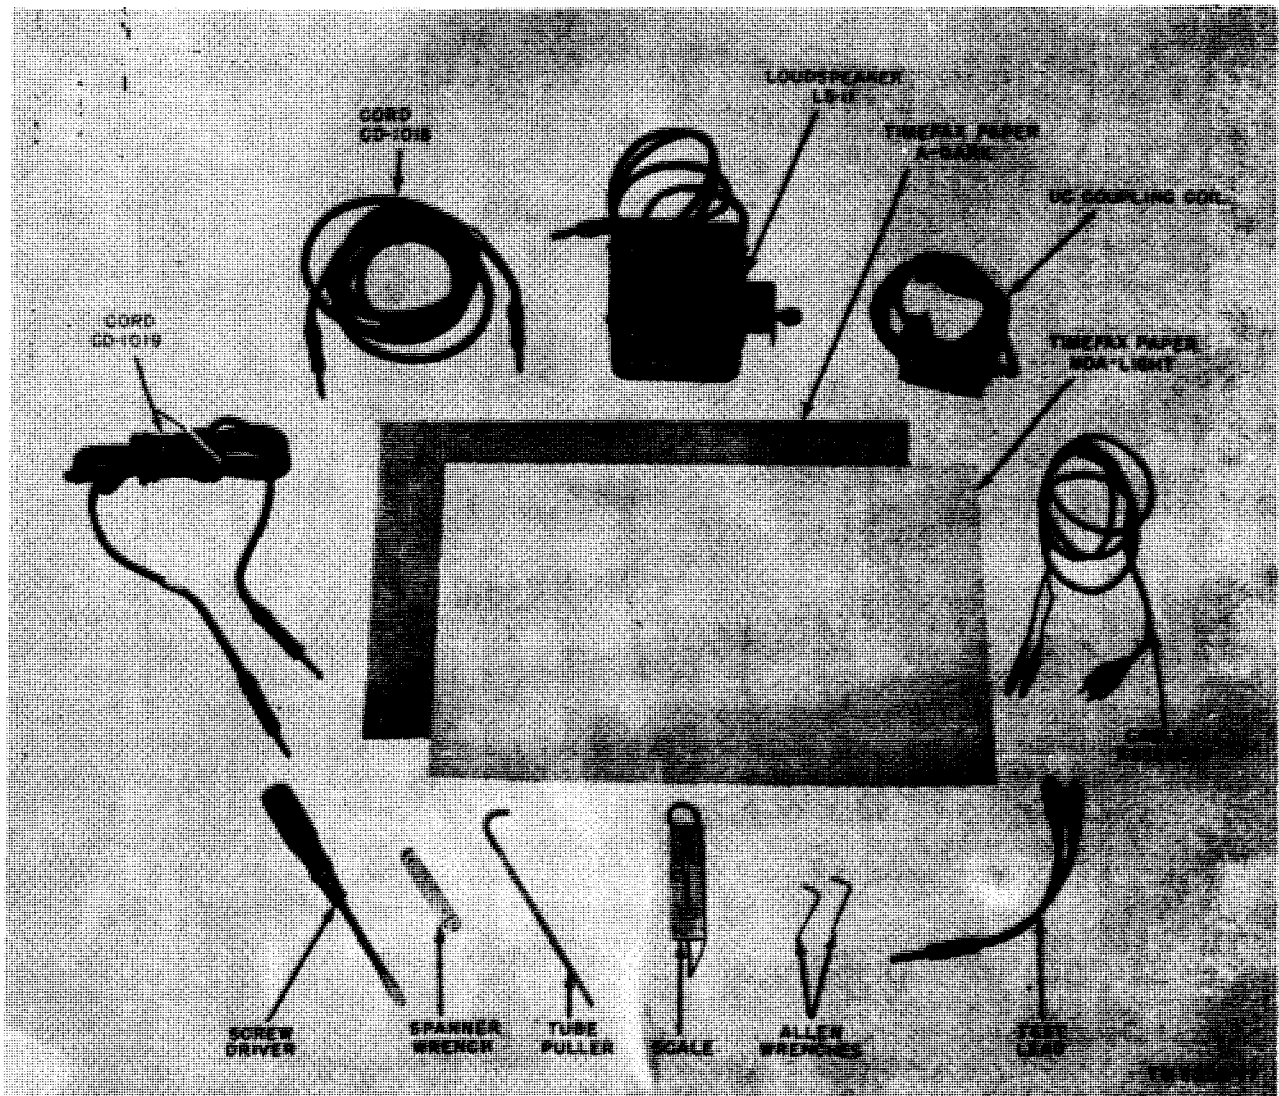
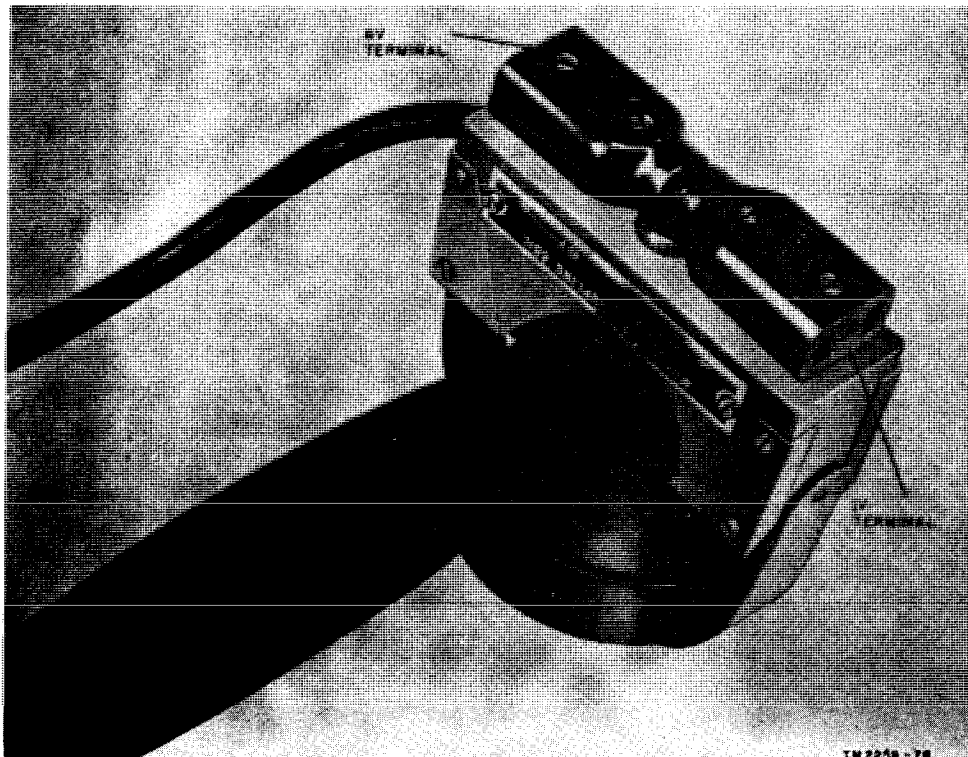

Figure 5. Facsimile set AN/TXC-1*, accessories.
Figure 6. UC coupling coil.
e. Cords and Leads. The following cords and leads (fig. 5) are furnished with Facsimile Set AN/TXC-1(*):
- (1) Cord CD-1018, a 10-foot, two-conductor, shielded, rubber-jacketed cord, terminated at each end with Plug PL-55. It is used in making input connections to the transceiver.
- (2) Cord CD-1019 an 8-foot, three-conductor, shielded, rubber-jacketed cord, terminated at each end with Plug PL-68. It is used in making output connections from the transceiver.
- (3) A 5½-foot test lead terminated on one end with a two-prong plug that fits the 1V and 6V jacks on the coupling coil (fig. 6), and on the other end with two alligator clips. It is used in making input and output connections to the transceiver when a high-level signal is required for certain types of wire lines.
- (4) A 6-inch test lead a two-conductor cord terminated at one end with PL-55, and at the other end with two alligator clips. It is used in connecting a wire line into the RADIO RCVR jack during reception of high-level signals.
f. UC Coupling Unit. This coupling unit (fig. 6) is used to make input and output connections to the transceiver through a telephone receiver, and is supplied with a phosphor-bronze clamp for holding it in place on the telephone handset. The primary impedance is 600 ohms and matches the output of the transceiver. The full 10-ohm secondary provides an open-circuit output of 6 volts; the secondary also has a 2-ohm tap that provides an open-circuit voltage of 1 volt. The secondary terminates in two female type plugs for selection of the desired level. This unit is not used with Facsimile Transceiver TT-1F/TXC-1.
g. Loudspeaker LS-11 (fig. 5). This loudspeaker is used in the talk-back circuit of Facsimile
h. Recording Paper (fig. 5). Two special types of direct recording paper are furnished for use with Facsimile Transceiver TT-1(*)/TXC-1.
- (1) Teledeltos paper or Timefax NDA is used in direct recording. They are dry papers with dark undercoating and light top coating. The coating is burned off by a spark from the transceiver stylus during the direct recording operation. The paper furnished is 12 inches by $18\frac{11}{16}$ inches in size. Four packages, each containing 250 sheets of Teledeltos grade H, or Timefax NDA, are furnished. This paper is nonduplicating.
- (2) Timefax A paper is used in the direct recording process when multiple copies